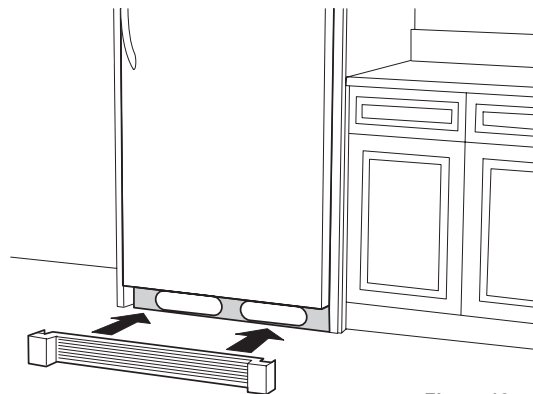

Figure 12
8. Attach metal toe grille (F) using the two screws saved during removal of the plastic grille panel in Step 4. It may help to open doors of both units to aid alignment of screws. Run screws through the holes on the right and left side of the toe grill and tighten until slightly snug. Adjust so the top of toe grille is parallel with the bottom of the door and then tighten both screws. See Figure 12.